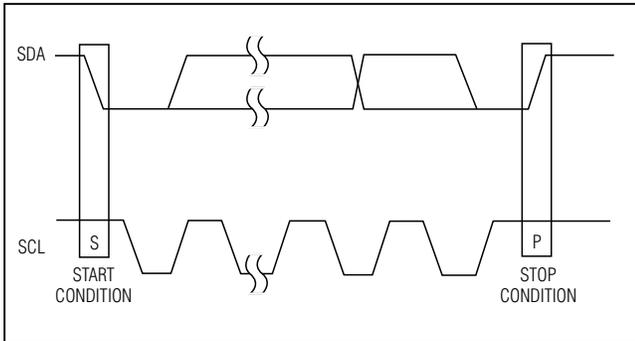

Figure 3. START and STOP Diagram
Both SCL and SDA remain high when the interface is not busy. The active master signals the beginning of a transmission with a START (S) condition by transitioning SDA from high to low while SCL is high. When the master has finished communicating with the slave, it issues a STOP (P) condition by transitioning SDA from low to high while SCL is high. The bus is then free for another transmission (Figure 3).